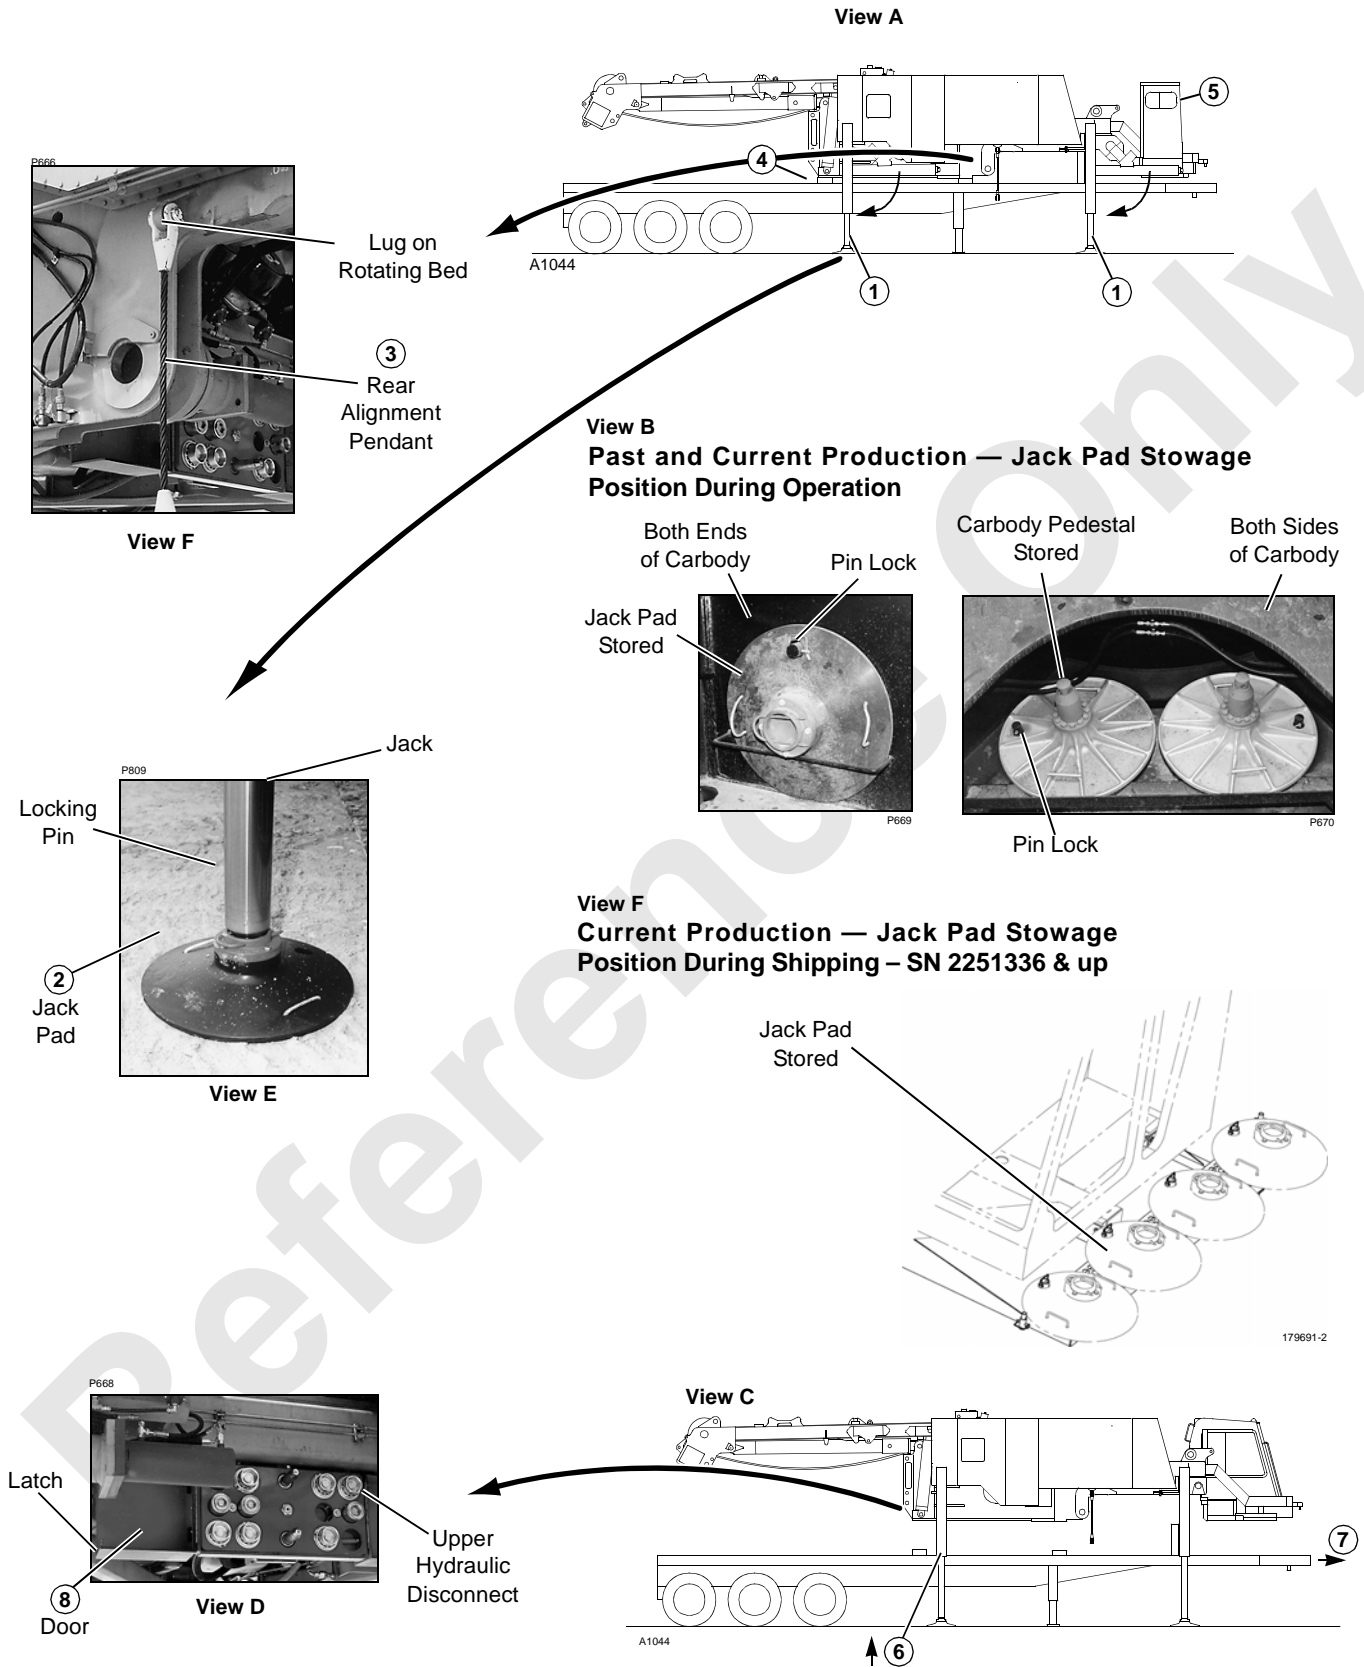
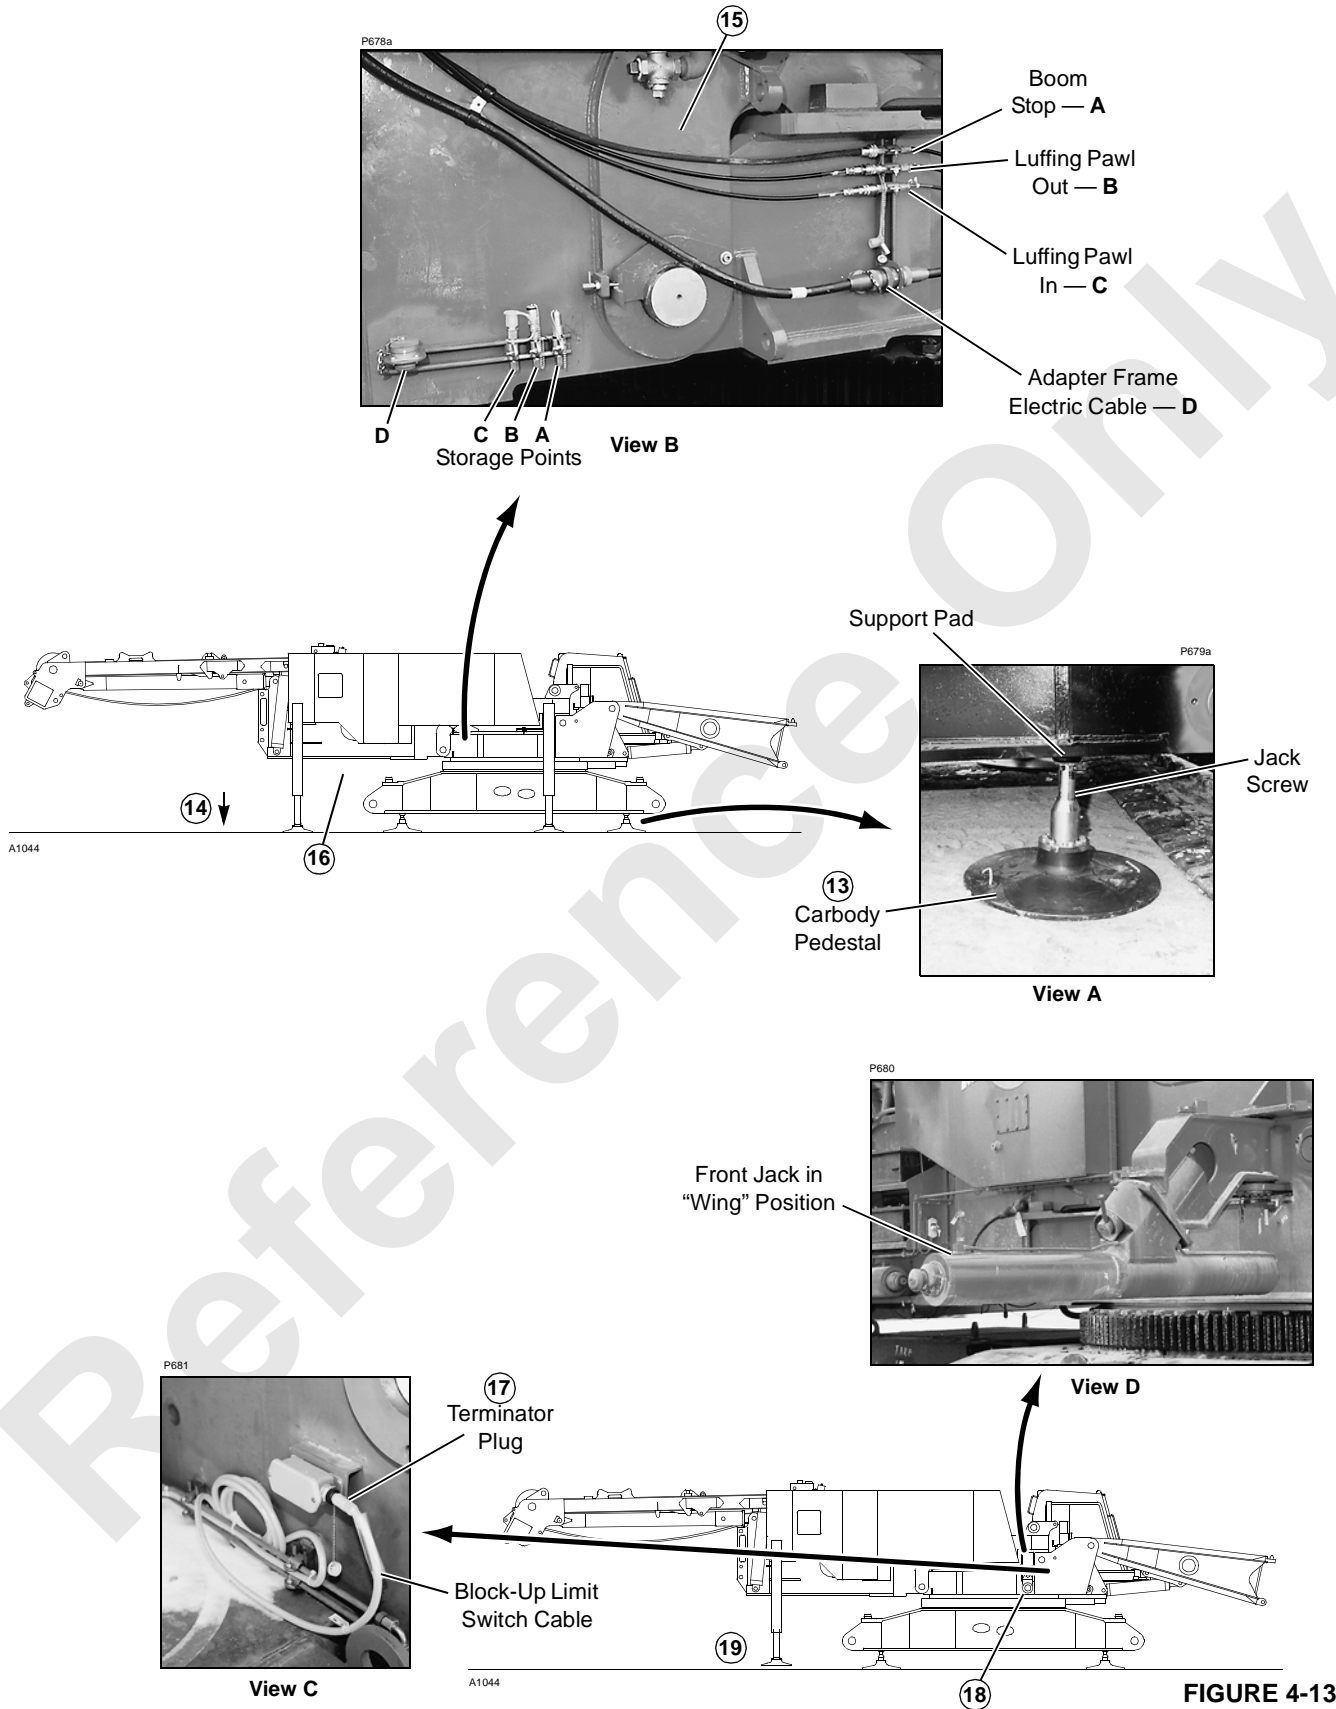

FIGURE 4-8
FIGURE 4-13
¹ Must remain in shipping position (see Figure 4-13).
NOTE: Circled numbers in Figure 4-8 correspond to numbered procedure steps.
2. Remove jack pads from storage (Figure 4-8, View B) and fasten to jacks (View E).
3. Pin rear alignment pendants to lugs on rotating bed (Figure 4-8, View F).
6. Fully extend jacks to lift rotating bed off trailer (Figure 4-8, View C).
8. Unlatch and open doors covering upper hydraulic disconnect (Figure 4-8, View D).
NOTE: Circled numbers in Figure 4-13 correspond to numbered procedure steps.
13. Remove four carbody pedestals from storage (Figure 4-8, View A) and place under support pads of carbody (Figure 4-13, View A).
14. Retract jacks to lower carbody onto four pedestals. **Make sure pedestals engage support pads.** Adjust pedestal jack screws, as required, to level carbody (Figure 4-13, View A).
15. Disconnect electric cable and air lines from storage points on right side of rotating bed and connect to plug and quick-couplers on right side of adapter frame (Figure 4-13, View B).
17. Connect block-up limit switch cable to terminator plug (Figure 4-13, View C).
18. Turn on engine and retract both **front** jacks, remove and store jack pads (Figure 4-8, View A), and rotate jacks to horizontal "wing" position (Figure 4-13, View D). **Don't swing jack inward.**